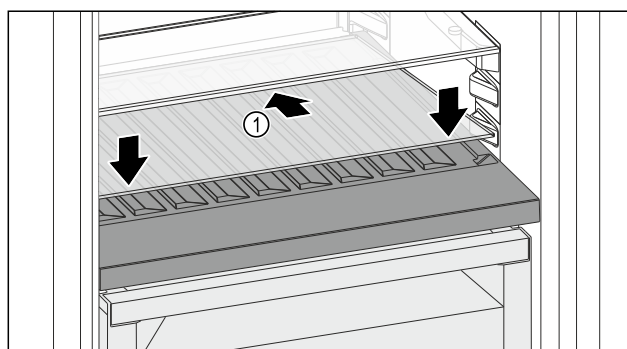

Fig. 126
- Place the glass shelf Fig. 126 (1) at an angle, sloping it downwards and backwards.
- Lower the glass shelf Fig. 126 (1) at the front.